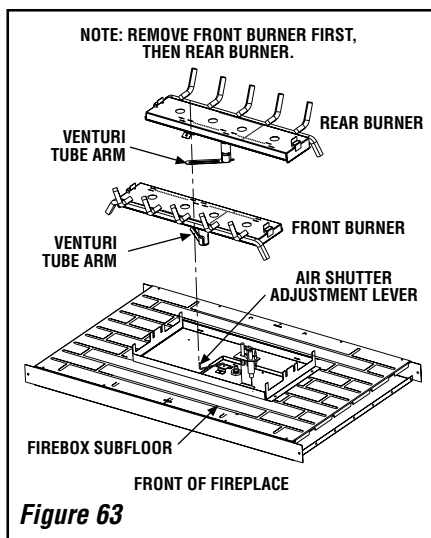
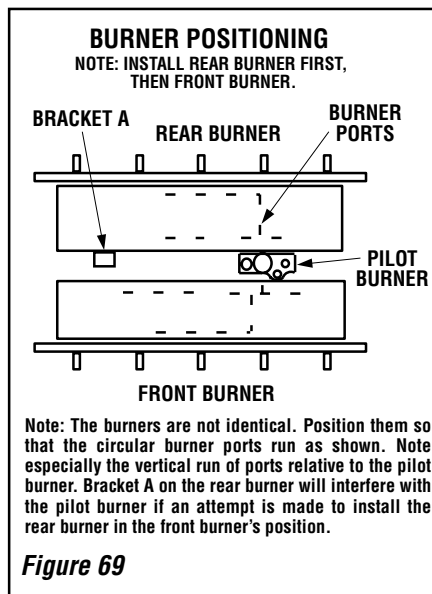

Figure 63
Figure 69
### Step 3. Referring to **Figure 63**, remove the front burner and then the rear burner.
**Step 8.** (Refer to **Figure 63 on page 27**)
B. Install rear burner first, followed by front burner, as shown in **Figure 69**. Ensure that the arm of the venturi of each burner is hooked onto the air shutter adjustment lever (refer to **Figure 63 on page 27**). The primary air opening can be adjusted by rotating the adjustment lever from beneath the firebox floor. Refer to **Figure 58 on page 23** for the recommended minimum primary air opening setting.